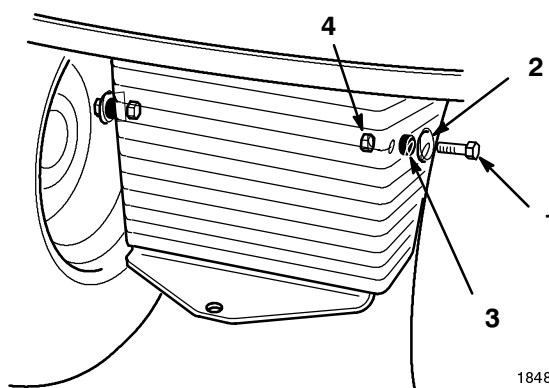

Figure 9
1. Install washers and spacers for bagger mount outside the tractor frame, using a 3/8 x 2" bolts and 3/8" lock nuts (Fig. 9).